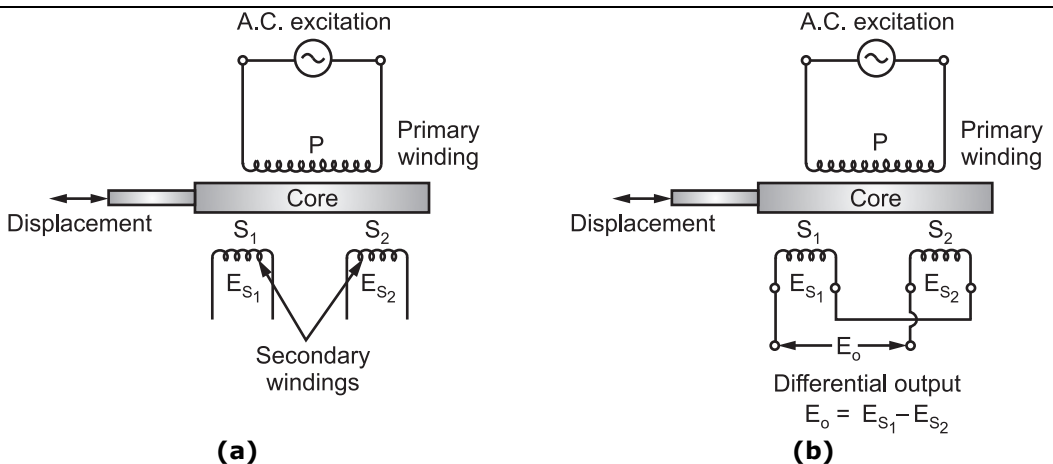

Fig. 2.10: Electrical circuit of LVDT
- When A.C. supply is given to the primary winding (P), it produces magnetic flux, which completes its path through S_1 and S_2 .
- Emfs produced in secondary coils S_1 and S_2 are shown by E_{S_1} and E_{S_2} respectively [Fig. 2.10 (a)].
- To convert two outputs of S_1 and S_2 into single voltage signal, S_1 and S_2 are connected in series as shown in Fig. 2.10 (b) with phase difference of 180° (wounded in opposite to each other).